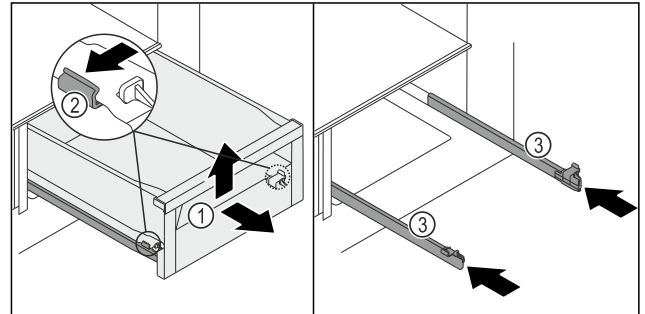

Fig. 140
- Pull out the drawer Fig. 140 (1) as far as it will go.
- Press the left and right clamps Fig. 140 (2) on the rails slightly outwards at the same time.
- The drawer Fig. 140 (1) is released from the rails.
- Lift up the drawer Fig. 140 (1) at the front.
- Remove the drawer Fig. 140 (1) from the front.
- Push in the rails Fig. 140 (3).